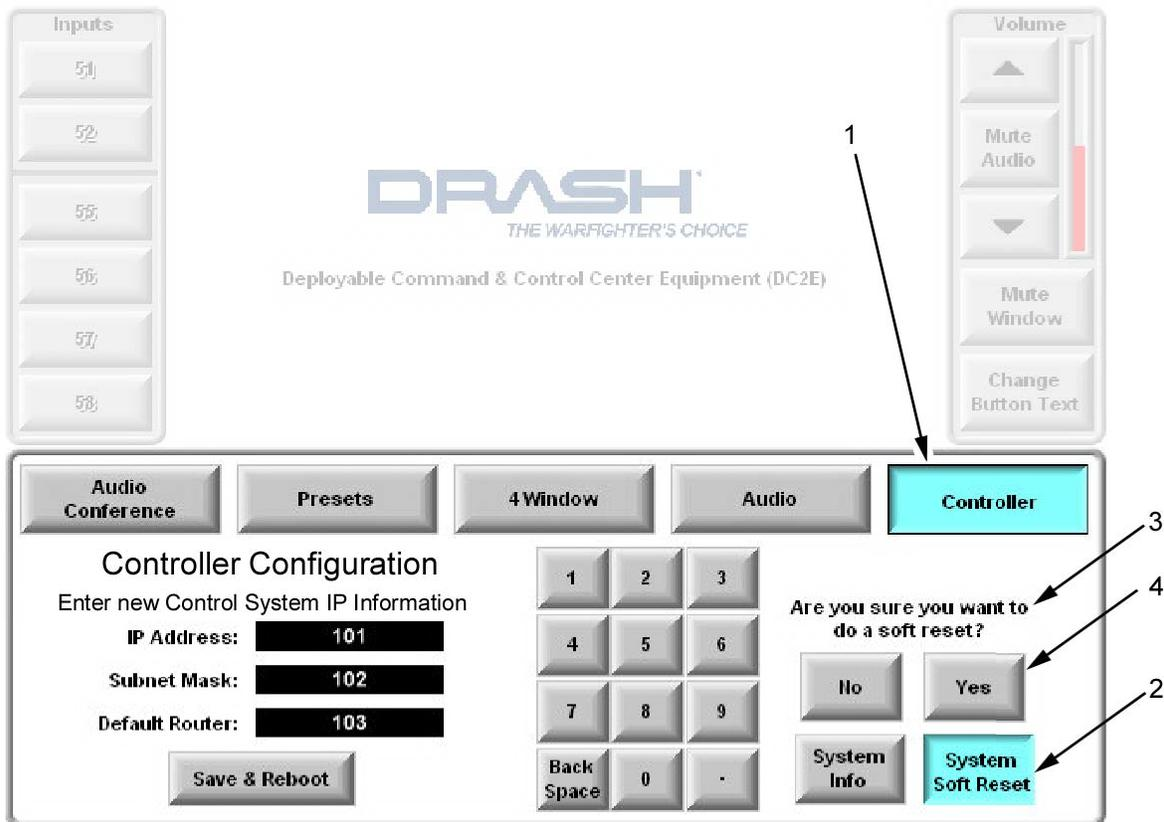

Figure 15: Confirmation for Soft Reset.
1. Press the **Controller** button (Figure 15, Item 1) to access the Controller Panel.
2. Press and hold the **System Soft Reset** button (Figure 15, Item 2) to initialize an AVCS system software reset.
3. Observe the “ARE YOU SURE YOU WANT TO SOFT RESET?” prompt (Figure 15, Item 3).
4. Press the **Yes** button (Figure 15, Item 4) to initiate the AVCS system software reset. The system will reset itself to initial settings. Select the **No** button to cancel the reset.